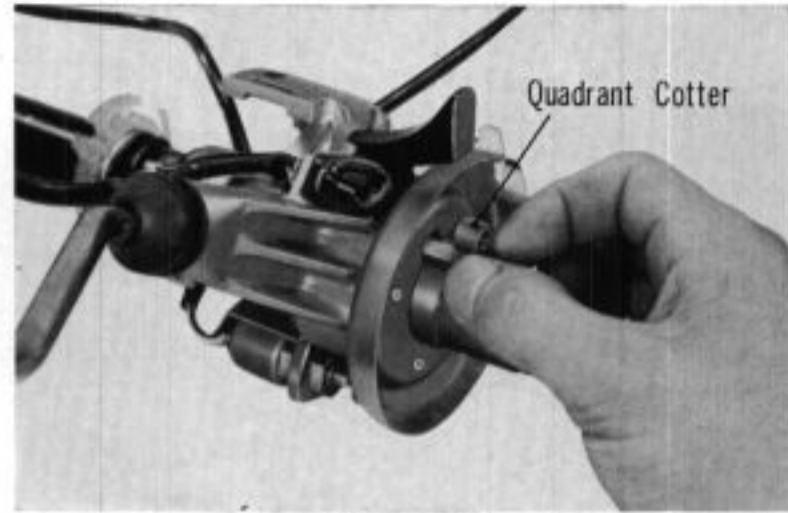

Fig. 7B-260
11. Install the turn signal switch assy.,(Fig. 7B-261)